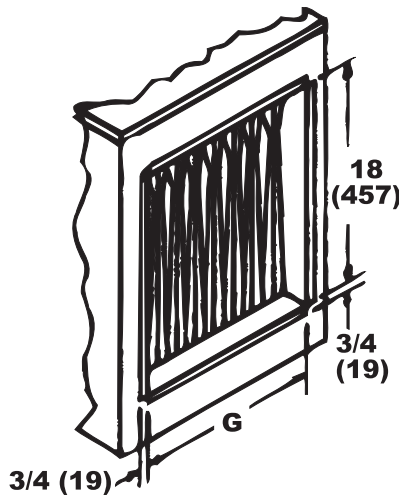

Figure 11. Ductwork Connection Dimensions (Refer to Table 8)
- **Connection dimensions:** Connection dimensions (inches (mm)) are shown in Figure 11 and listed in Table 8.
*See Figure 11.